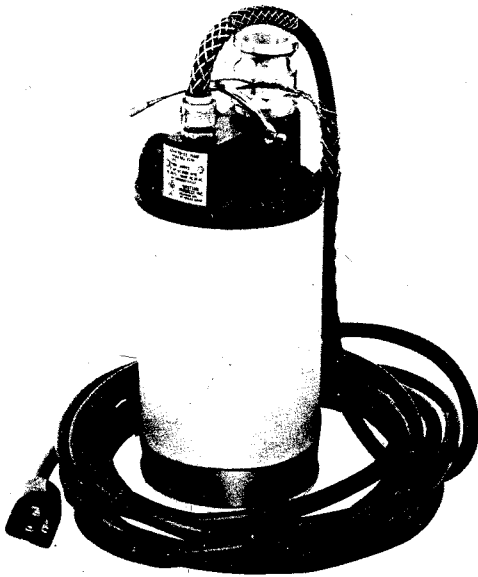

Fig. 6—Western Progress Submersible Pump—Model 2285
**6.01** The Western Progress model 2285 submersible pump (Fig. 6) is a self-priming, 1-1/2 inch centrifugal pump powered by a 1 HP motor. The pump can be operated from either a 115 Vac or dc power source. The pump draws less than 15 amperes so it can be started and operated with a 1250 watt generator. The power cord plug incorporates a 15 ampere fuse for overload protection.